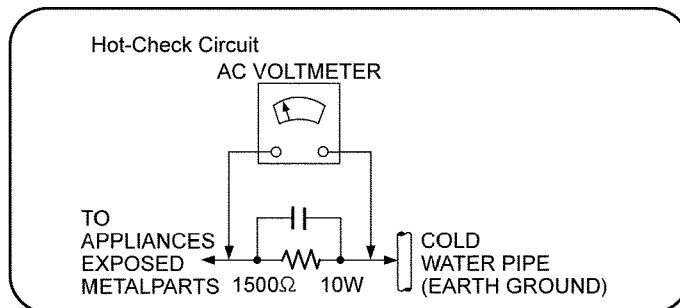

Figure. 1
2. Connect a $1.5k\Omega$, 10 watts resistor, in parallel with a $0.15\mu F$ capacitors, between each exposed metallic part on the set and a good earth ground such as a water pipe, as shown in Figure 1.